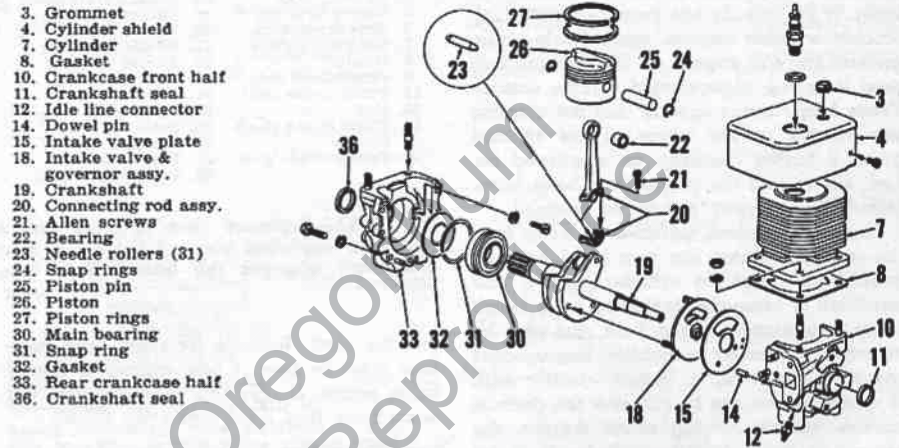

Fig. HL50—Exploded view of engine used on model 20DP3. Other model 20 engines are similar in construction.
GOVERNOR. All are equipped with rotary type inlet valves. The governor is a centrifugal type and is an integral part of the rotary inlet valve as indicated in Fig. HL45. On models so equipped, Formica wear plate (15—Fig. HL50) is pinned to the engine crankcase with opening in wear plate in register with intake opening in crankcase. On all models, the inlet opening in the valve plate (IV—Fig. HL45) is controlled by the combination shutter and governor weight (GW) which when the engine is stationary, is held in the open position by spring (GS). When engine speed exceeds the designed limit, centrifugal force acting on the weight overcomes the opposing spring pressure and partially covers the manifold opening and thus throttles the engine. As the throttled engine slows down, centrifugal force diminishes and the spring again uncovers the opening to restore engine speed.
If main bearing bores have a lapped appearance, the bearing has been turning in the crankcase in which instance the bearing and/or the crankcase should be rejected. On models so constructed, the mating surfaces of two-piece crankcase (Fig. HL50) must be free of all nicks and burrs as neither sealing compound nor gaskets are used at this joint.